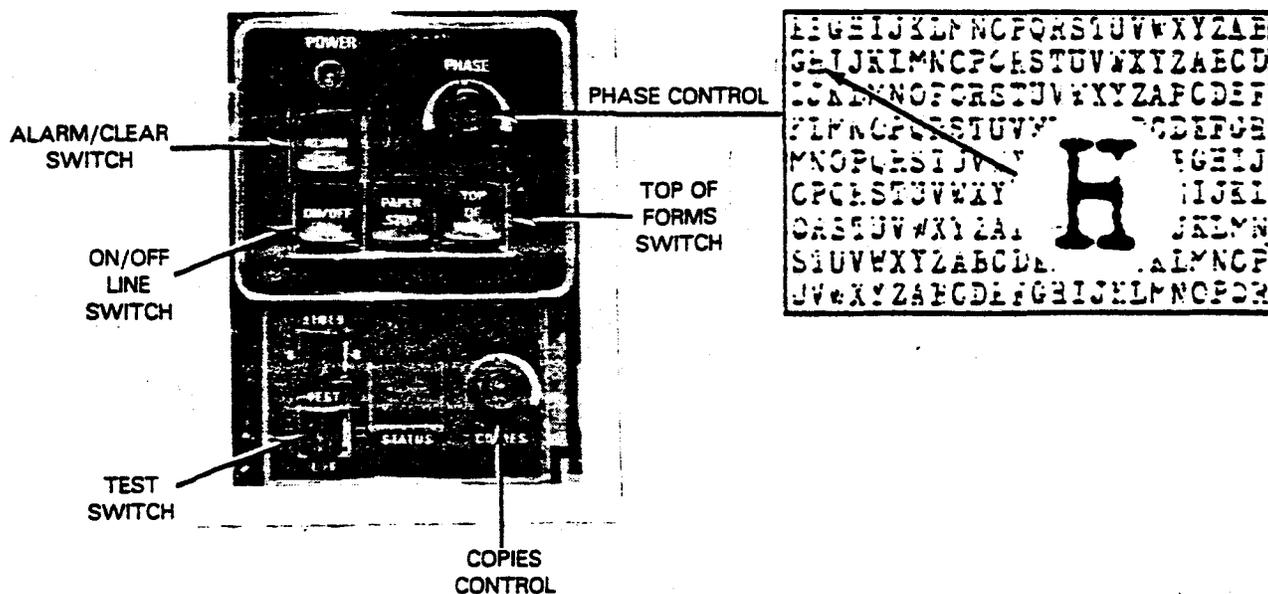

Figure 4-10. Operator Adjustments
24. Press the ALARM/CLEAR switch/indicator (Figure 4-10) to extinguish the indicator.